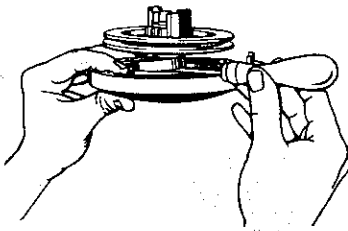

FIG. 11
1. Place rotor (17) (complete with cord and handle) into cover (20) and hook inside loop of spring (18) to rotor with the aid of a screwdriver as shown in Fig. 11.